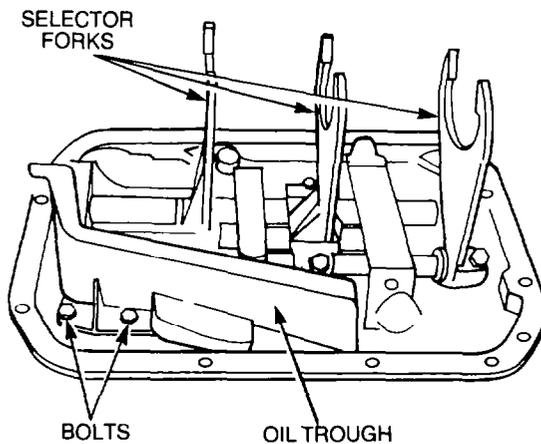

Figure 161 — Selector Housing
- e. Invert the selector housing and place it on a work bench. Ensure that the selectors are in the neutral position, and note the position of the selectors and forks (see Fig. 161). Remove the locating screws securing the selectors and forks to the selector shafts. Remove the selector shafts, taking care not to lose the detent balls and springs and the interlock plungers and pins.